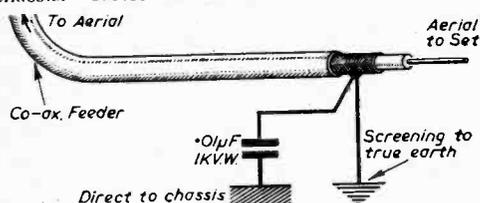
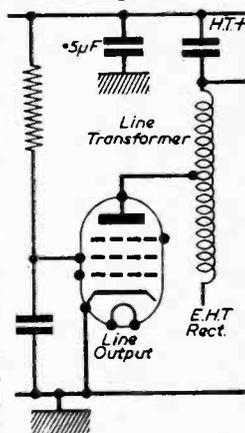

Fig. 3.—The screening of the coaxial lead should be connected direct to earth.
Fig. 4.—Additional smoothing for the H.T. line.
*Indirect coupling.* If interference is diminished somewhat by disconnecting the TV aerial, this indicates that the interference is mainly due to radiation from the aerial system. The following modifications to the TV should then be tried. Earth the outer screening of the coaxial cable direct to a good low resistance earthing point (see Fig. 3). Connect a  $.01\mu F$  1,000 v. condenser from the chassis to the coaxial cable screening. Connect a  $.5\mu F$  condenser from the H.T. line to the nearest chassis connection (Fig. 4). This condenser should be connected as near as possible to the line transformer H.T. feed.